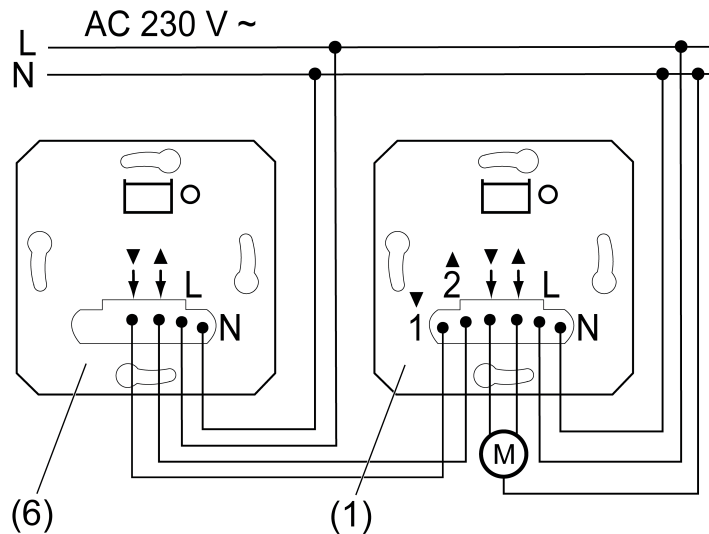

Figure 2: Control with extension
- Venetian blind control (1) for local control. Optional: Connection of an extension (6) (Figure 2). A mechanical Venetian blind push-button or Venetian blind switch can also be used as an extension instead of the Venetian blind control.